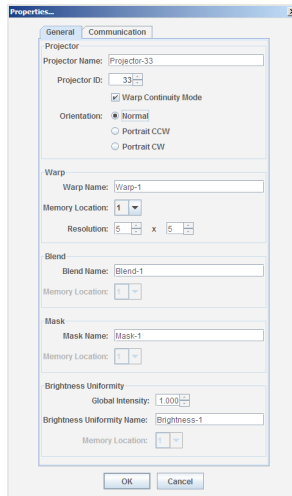

Figure 4-6 Properties Dialog, General tab
2. On the **Edit** menu, click **Properties**. The Properties dialog for the selected projector appears (**Figure 4-6**).
The Properties dialog window (**Figure 4-6**) allows you to change names and storage locations. The settings in the Properties dialog apply to the selected projector only.